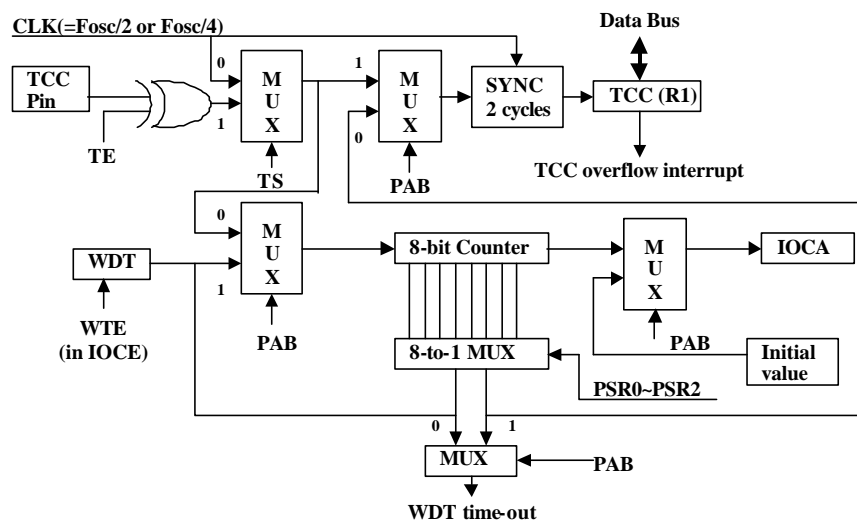

Fig. 5 Block Diagram of TCC and WDT
An 8-bit counter available as prescaler for the TCC or WDT. The prescaler is available for either the TCC or WDT only at any given time, and the PAB bit of the CONT register is used to determine the prescaler assignment. The PSR0~PSR2 bits determine the ratio. The prescaler is cleared each time the instruction is written to TCC under TCC mode. The WDT and prescaler, when assigned to WDT mode, are cleared by the “WDTC” or “SLEP” instructions. Fig. 5 depicts the circuit diagram of TCC/WDT.
- R1 (TCC) is an 8-bit timer/counter. The clock source of TCC can be internal or external clock input (edge selectable from TCC pin). If TCC signal source is from internal clock, TCC will increase by 1 at every instruction cycle (without prescaler). Referring to Fig. 5, CLK=Fosc/2 or CLK=Fosc/4 application is determined by the CODE Option bit CLK status. CLK=Fosc/2 is used if CLK bit is "0", and CLK=Fosc/4 is used if CLK bit is "1". If TCC signal source comes from external clock input, TCC is increased by 1 at every falling edge or rising edge of TCC pin.